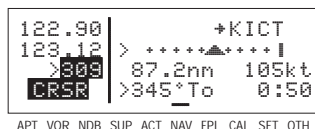

Figure 5-41
4. If you desire to change the selected course while in OBS mode, turn the right inner knob while the cursor is over the mode annunciation (figure 5-41).